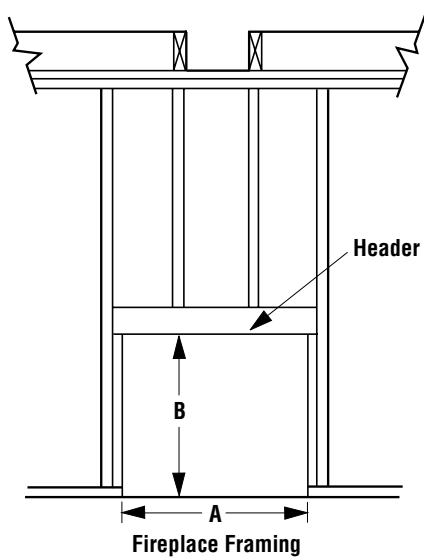

Figure 4
Step 1. Frame appliance enclosure as illustrated in **Figures 4 through 7 on page 5.**